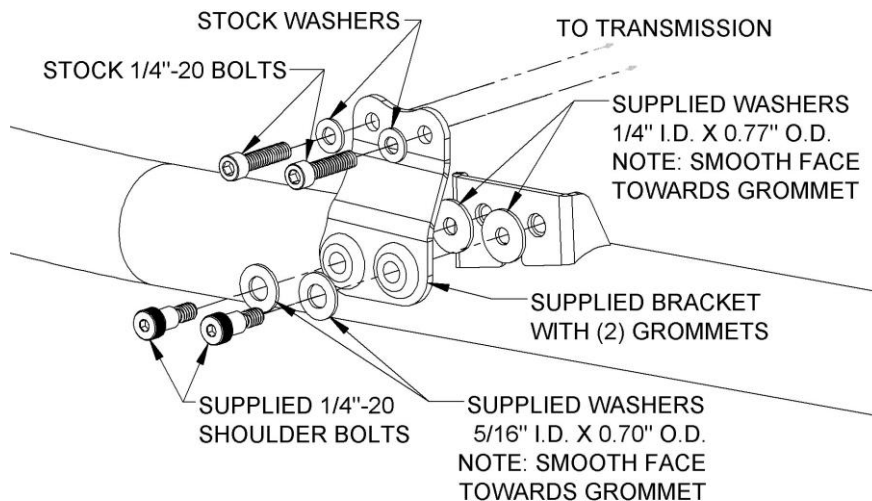

FIGURE 6
14. Using **FIGURE 6** below, insert the 5/16" I.D. washer over both supplied shoulder bolts, make sure the smooth side of the washer is facing toward the threads of the bolts. Insert them through the grommets on the supplied bracket, be sure the bracket is oriented as shown in **FIGURE 6**. On the other side of the bracket, install the 1/4" I.D. washer over the shoulder bolt threads. Ensure that the smooth side of each washer is contacting the grommet. (The stamped side with sharp edge must face away from the grommet to ensure long life of the grommet.) Apply blue Loctite to the threads of the shoulder bolts. Thread both shoulder bolts and bracket assembly loosely onto the welded mount on the crossover assembly. See **FIGURE 6**.